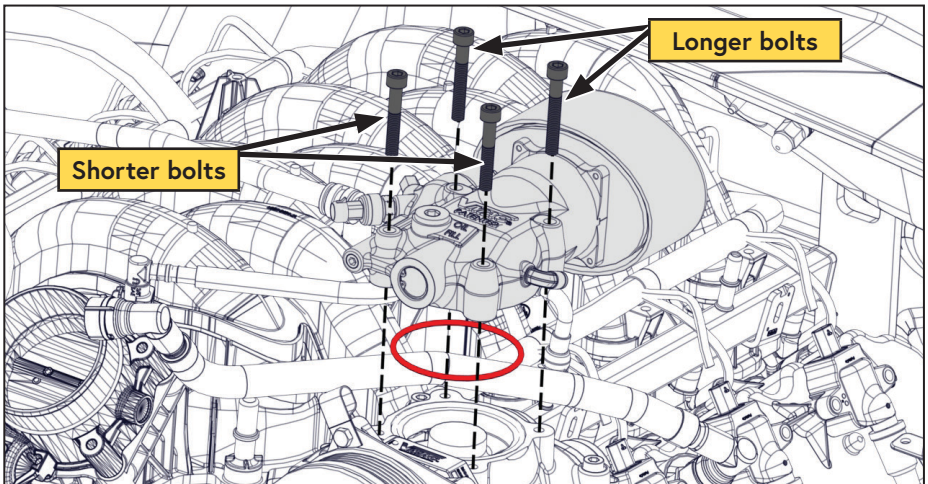

Figure 45 — Install the inlet
- ☐ Remove the protective covering and reinstall the Viton O-ring and inlet onto the compressor. Torque to specification (Figure 45).